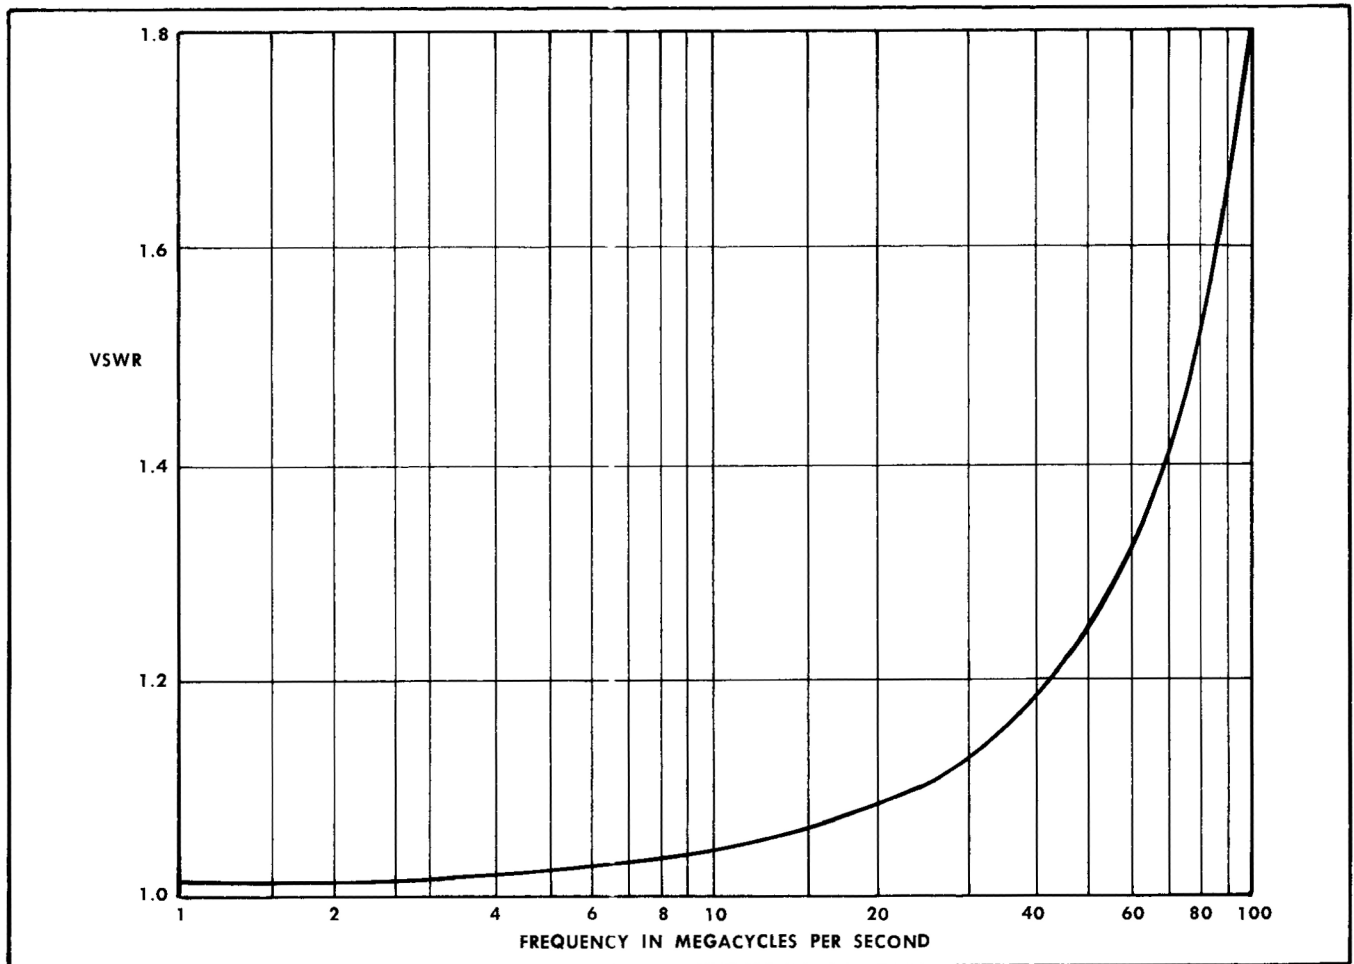

Fig. 2-3. Typical vswr versus frequency curve measured at the Type 82 input connector. The signal source was terminated into 50 ohms at the connector.
(6) Oscillations that arise from using coaxial (shielded) leads can be eliminated in a manner similar to that described for unshielded leads. That is, add a suitable value resistor in series with the center conductor of the cable near the input to the Type 82, use some other setting of the V/CM switch, or use the P6008 Probe.
(7) In high-frequency applications, it will be necessary to terminate the coaxial cable with a resistor or an attenuator presenting a resistance equal to the characteristic impedance of the cable. This will not only prevent the resonance effects but also prevent ringing (high-frequency damped oscillations).
(8) It becomes more necessary to terminate the cable properly as the length of the cable increases. The termination is generally placed at the oscilloscope end of the cable, although many sources require an additional termination at the source end of the cable as well.
(9) If you are working with 50-ohm systems, you may need to use the vswr versus frequency curve shown in Fig. 2-3. The curve was obtained using a signal source which was terminated into 50 ohms at the input of the Type 82. The termination which was used is a type that has BNC connectors on